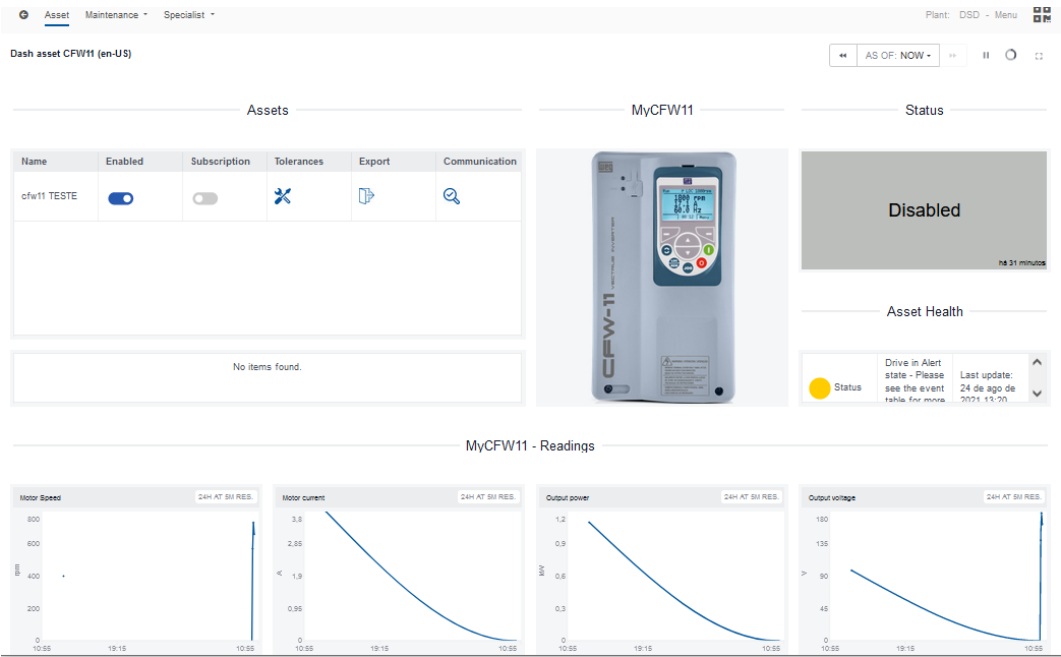

Figure 3.10: Dashboard of the drive registered on the MFM
Step 9 A Figure 3.10 shows the dashboard of the drive newly registered on the MFM.